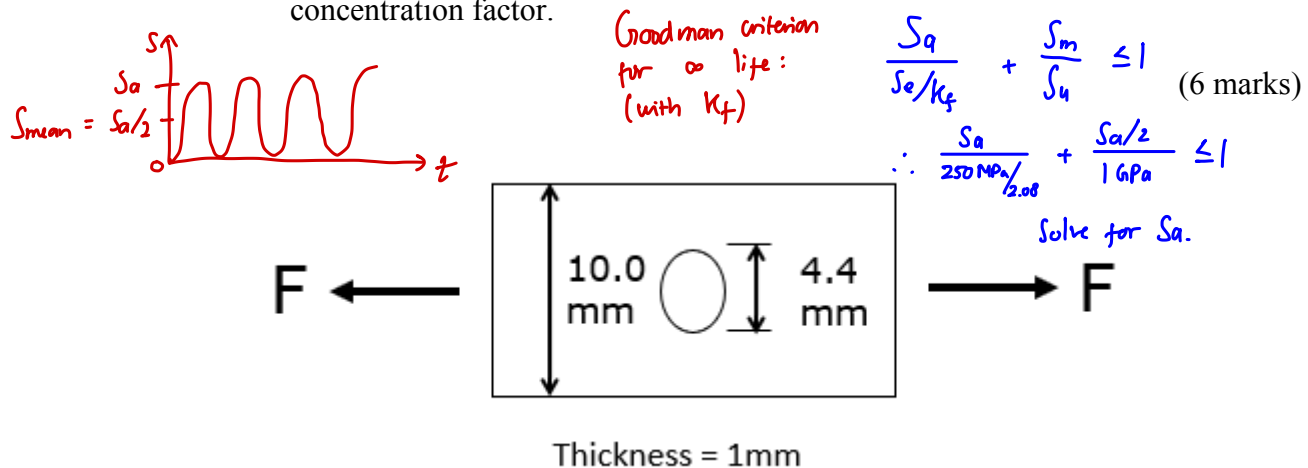

Figure 2.1
- (b) A finite circular hole steel plate with 1 mm thickness shown in Figure 2.1 is subjected to uniaxial load, F . The material is made of 1020R steel with $S_{ut} = 1 \text{ GPa}$.